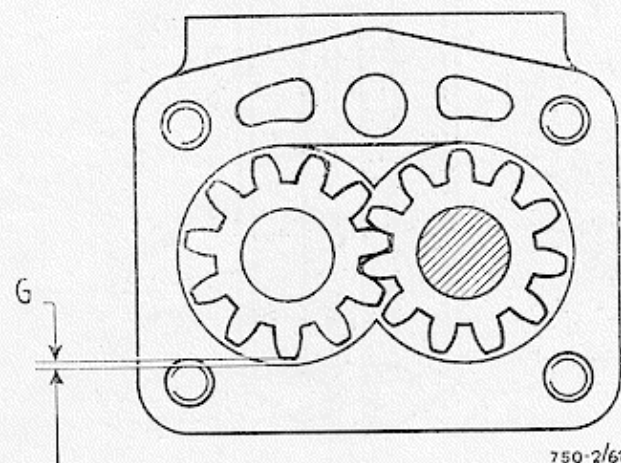

Fig. 61 - Radial clearance (G) between gears and oil pump body
- 2) that the radial play between the gear-wheels and the pump body is not much greater than the original figure of 0.020 and 0.062 mm. (fig. 61);